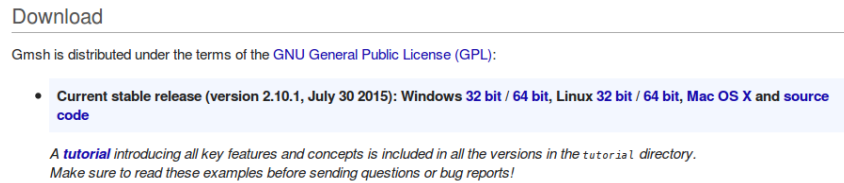

Figure 8.2: Download stable release
Open this website in your browser and scroll down to download. Now Download Gmsh according to the given current stable release Fig 8.2 according to your Operating System (OS).